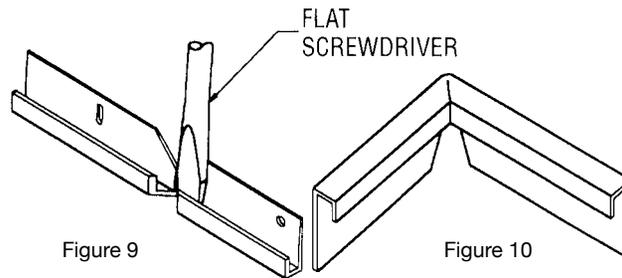

Figure 9
3. Room legs might be deformed during the cut. Use a flat screwdriver to straighten both sides of the room leg before bending to form an inside corner (see figures 9 & 10).